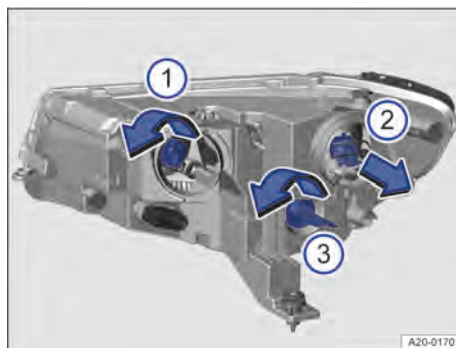

Fig. 183 In the bonnet space: replacing bulbs in the right-hand headlamp.
2. Turn the bulb holder in the direction of the arrow as far as it will go and pull it out to the rear → Fig. 183 ①.
4. Insert the bulb holder into the headlamp and turn it in the opposite direction to the arrow as far as it will go → Fig. 183 ①.
2. Pull out the bulb holder in the direction of the arrow → Fig. 183 ②.
4. Insert the bulb holder into the headlamp and press in the opposite direction to the arrow → Fig. 183 ②.
1. Turn the bulb holder in the direction of the arrow as far as it will go and pull it out to the rear → Fig. 183 ③.
3. Insert the bulb holder into the headlamp and turn it in the opposite direction to the arrow as far as it will go → Fig. 183 ③.